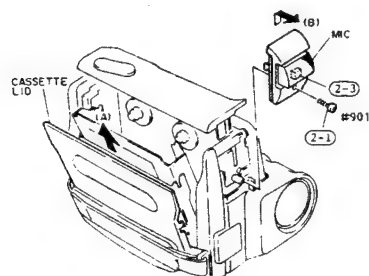

Fig. 2-21
1) Remove the cassette lid in the direction of arrow (A). (See Fig. 2-21)
(2) Microphone (MIC)
- 1) Remove one (1) screw holding the MIC. (See Fig. 2-21)
- 2) Remove the MIC in the direction of arrow (B).